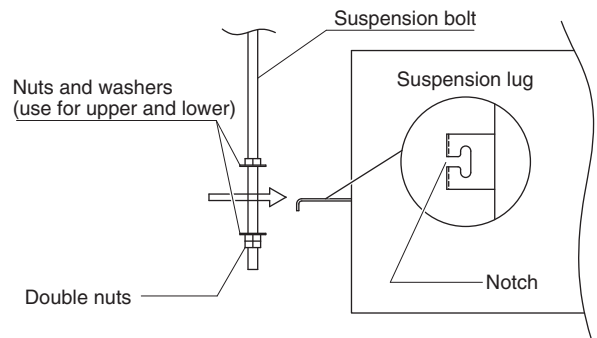

Fig. 3-61
- (3) Thread the 3 hexagonal nuts and 2 washers (field supply) onto each of the 4 suspension bolts as shown in Fig. 3-61 and 3-62. Use 1 nut and 1 washer for the upper part, and 2 nuts and 1 washer for the lower part, so that the unit will not fall off the suspension lugs.